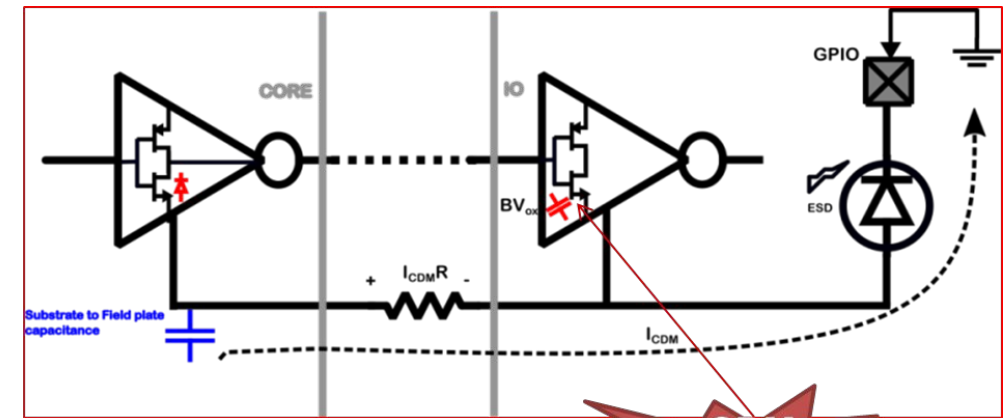

Fig1 : CDM Discharge Event
- A CDM Risk Topology may have other functional circuitries around, which can act as a clamp (Forward bias diodes) across the Gate at risk, limiting G-S voltage build-up (Fig 1)
- Most designs benefit from the multi-stage risk assessment, while one Design5 had all risks mitigated at Stage 4 (Fig 1)